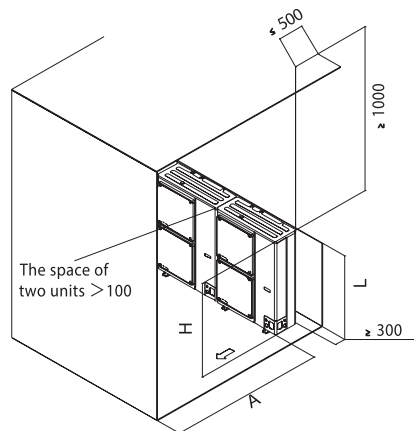

Figure 14
- b. Group units installation (more than two units)(see Figure 14)